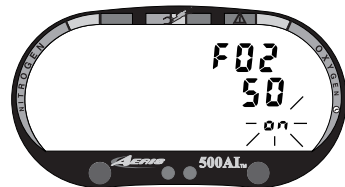

Fig. 19 - Set FO2 Default
- FO2 50 appears with 'On', or 'Off', flashing (Fig. 19)